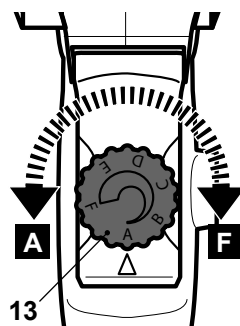

Fig. 9
Limit the maximum speed using the speed dial (13). The variable speed device enables you to select the best speed for a particular application (Fig. 9).
- > Turn the speed dial (13) towards "F" to increase the maximum speed.
- > Turn the speed dial (13) towards "A" to decrease the maximum speed.